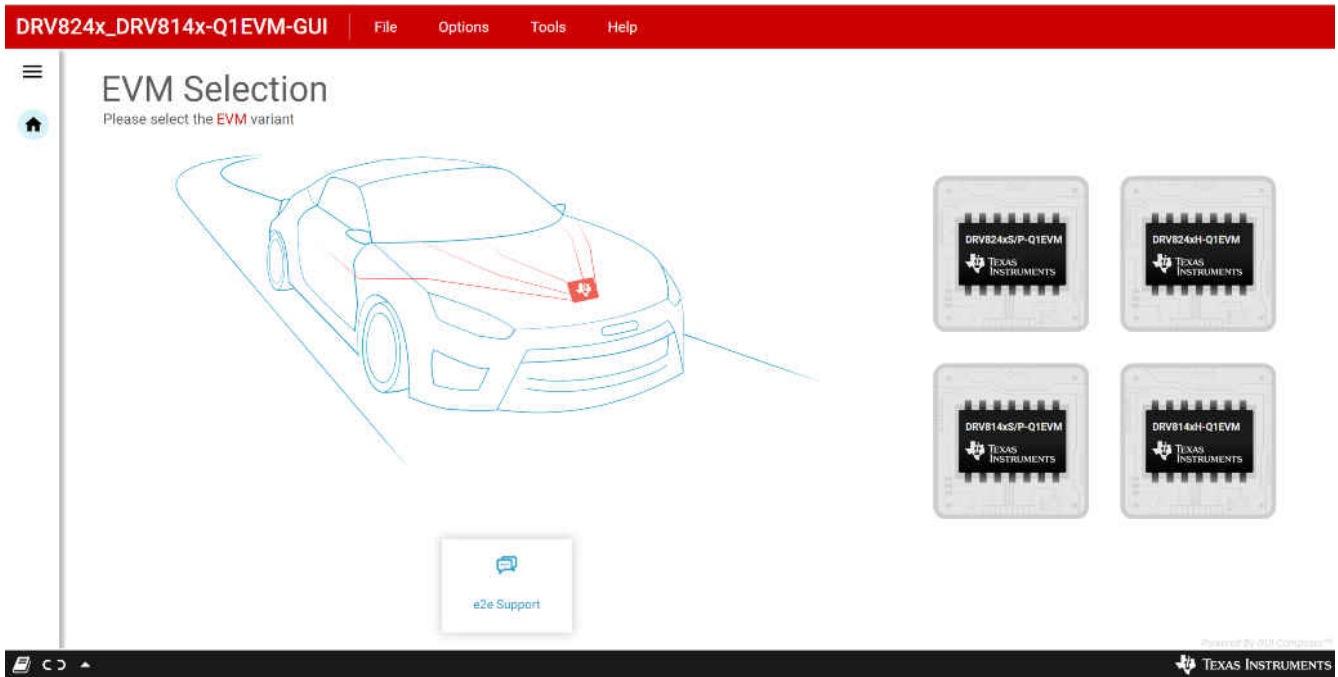

Figure 4-1. DRV824x_DRV814x-Q1EVM GUI Home Screen
2. From the screen referenced in Figure 4-1, select the EVM variant connected using the icons on the right.